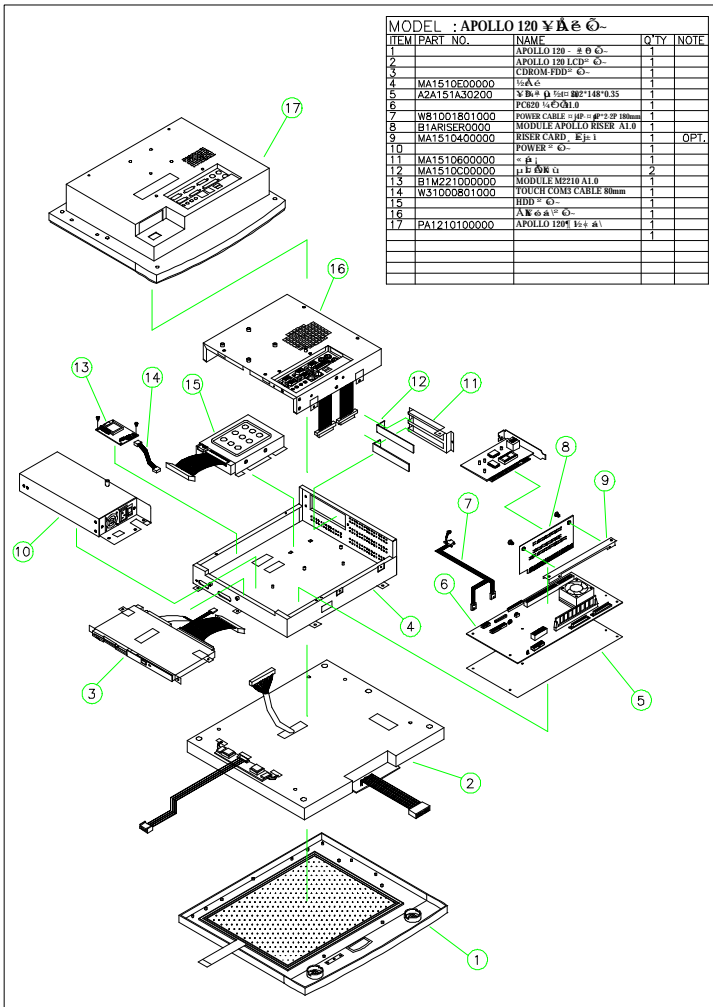
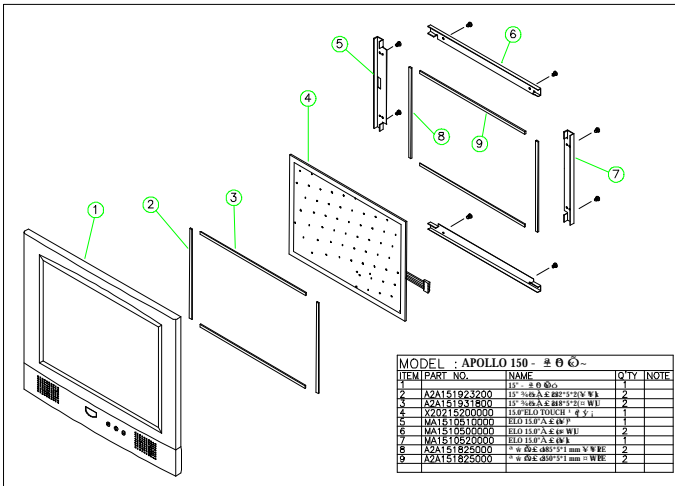
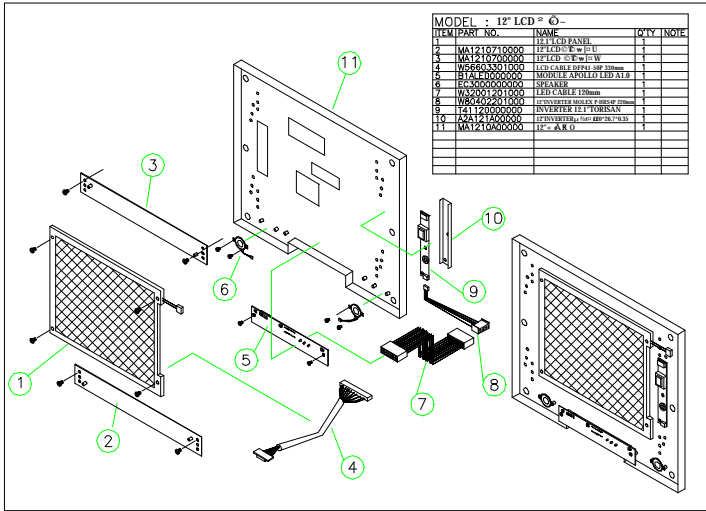
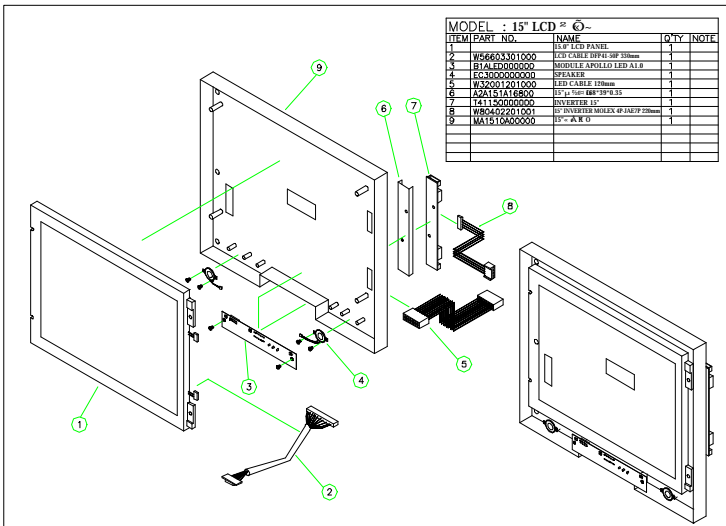

FIGURE 5-1: APOLLO 120 EXPLODED DIAGRAM
FIGURE 5-7: APOLLO 120 FRONT BEZEL ASSEMBLY
FIGURE 5-8: APOLLO 120 LCD MODULE ASSEMBLY
FIGURE 5-9: APOLLO 150 LCD MODULE ASSEMBLY
3. Tape the motherboard insulator (5) (Fig. 5-1 & 5-2 (5)) to the motherboard (6) first. The insulator is to separate the electronic components on the reverse side of the motherboard from the metal compartment to prevent short circuitry caused during system operation.
4. Fix the motherboard (6) to the chassis with 7 PMS anti-fallen 3*6 screws.
5. The IR/LED 2*13-pin cable (Fig. 5-7 (7) & Fig. 5-8 (5)) has to go through the rectangle opening located at the bottom side of the chassis, then connected to motherboard's J9, the HDD LED & ACPI LED & SMI connector.
1. For Elo touch, the touchscreen cable (Fig. 5-1. (14)) is a 2*5-pin to 2*5-pin flat cable. One end is connected to the touchscreen controller first.
4. Fix the touchscreen controller (13) to the bracket with 2 PMS 3*6 screws.
Figure 5-8 and 5-9 illustrate the way to assemble the APOLLO's LCD module.
1. Refer to Figure 5-8. There are two LCD brackets (2) & (3) used to fix to the LCD panel (1) to the LCD holder (11) from the up & down sides.
3. The standard LCD used in APOLLO 120 is SANYO MXS121022010 or its equivalent. It is a TTL interface LCD. The LCD cable (4) is a DF9-41S to 2*25-pin cable with around 35 cm in its length. Insert the 41-pin end into the opening at the rear side of the LCD holder and have it firmly plugged to the 41-pin connector at the rear side of the LCD panel.
4. Attach the insulator (10) to the inverter (9).
5. The inverter cable (8) is a 4-pin to 4-pin cable with wafer connectors at both sides. Connect the one end to inverter first. The other end is for later connection to the **INV1** on the motherboard.
8. For APOLLO 120, the IR/LED board (2) is to be fixed to the lower side of the LCD holder.
1. Refer to Figure 5-9. The standard LCD used in APOLLO 150 is either 15.1" TTL LG 151X2 or 15" LVDS Chi Mei M150X3-L01 or their equivalent. The assembly of TTL LCD differs from that of the LVDS LCD.
2. Fix the LCD panel (1) to the LCD holder (9) with four PMS 3*8 screws.
3. For the TTL LCD, LM151X2 or its equivalent, the LCD cable (2) is a DF9-41S to 2*25-pin cable with around 35 cm in its length. Insert the 41-pin end into the opening at the rear side of the LCD holder and have it firmly plugged to the 41-pin connector at the rear side of the LCD panel. The other end is for later connection to the LCD1 on the motherboard.
8. Attach the insulator (6) to the inverter (7).
9. The inverter cable (8) for APOLLO 150 is a 7-pin to 4-pin cable with wafer connectors at both sides. Connect the 7-pin end to the inverter first. The other end is for later connection to the **INV1** on the motherboard.
13. The two speakers (Fig. 5-8 (6)) are to be fixed to the right and left sides of the IR/LED board. The speaker wires are to be connected to the 2-pin header on the IR/LED board.